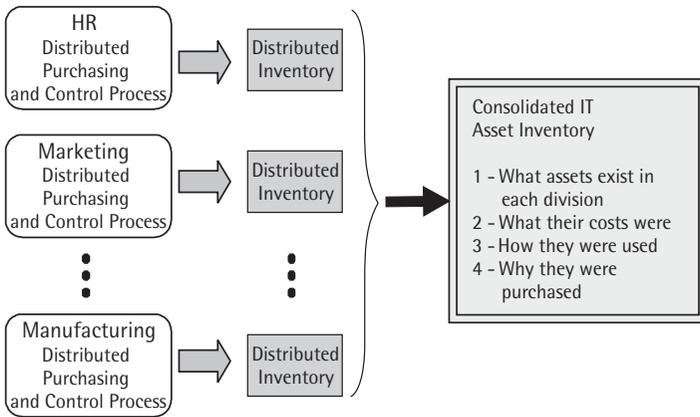

Figure 6.2 Benefits of consolidating distributed asset inventories.
- ◆ Why they were purchased (see Figure 6.2).